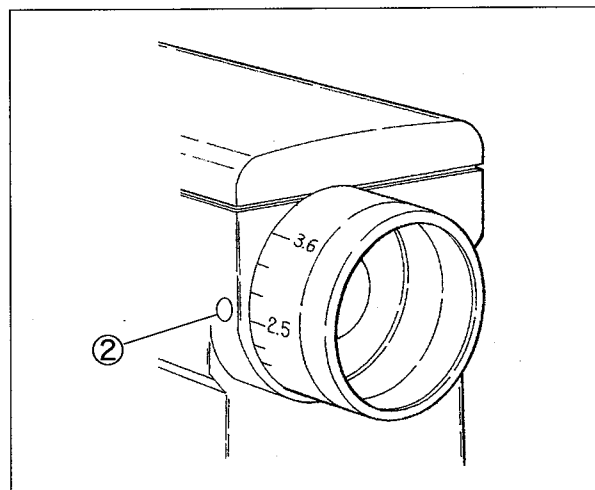

Fig. 5-11
- (3) Under these conditions, align the desired graduation of the pulley with the hole ② on the machine arm. (Fig. 5-11)
- (4) Release the push button ①.